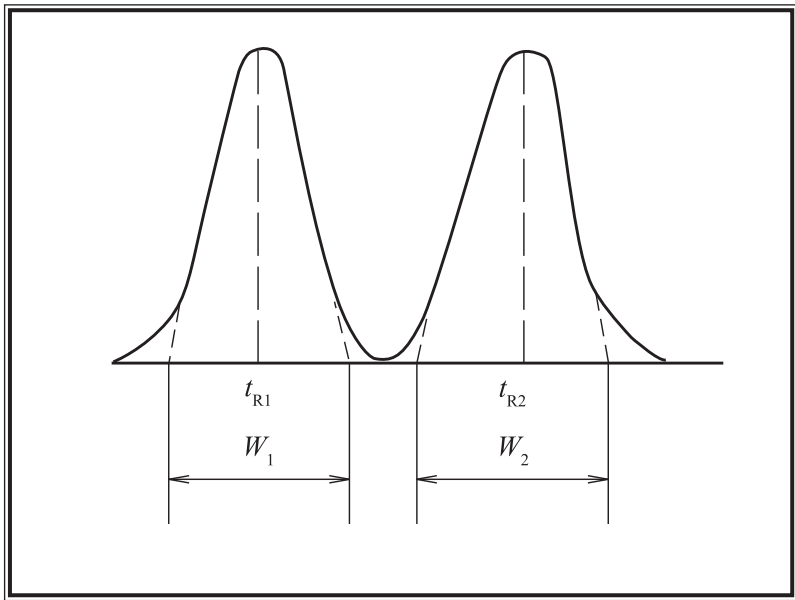

Figure 1 Parameters for calculation of resolution factor (R)
- (c) **Resolution factor (R)** – To ensure the accuracy of quantitative analysis, the *R* value (Fig. 1) of the analyte peak with the adjacent peak must be larger than 1.5, unless otherwise specified. The *R* value is calculated by using the following equation –